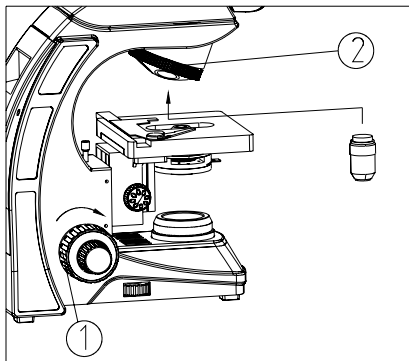

Fig. 4
1. Rotate the coarse focusing knob to lower the stage to a suitable position (see Fig. 4).
2. Install the objectives into the objective nosepiece② from the lowest magnification to the highest in a clockwise direction from the rear.